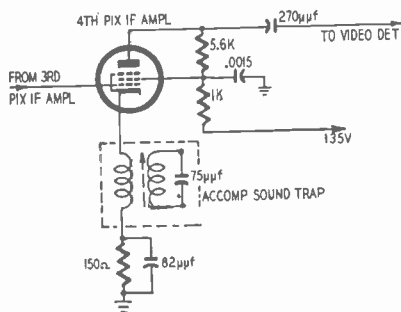

Fig. 9-P. Overloading of last pix if amplifier produces loss of horizontal and vertical sync.
**SERVICE:** Pix tearing and rolling on strong signals may be caused by overloading of the 3rd video if amplifier. The low plate voltage of this tube and higher signal input (compared to preceding stages) can prevent it from properly handling strong signals. (Check bias on this tube.) See Fig. 9-P.